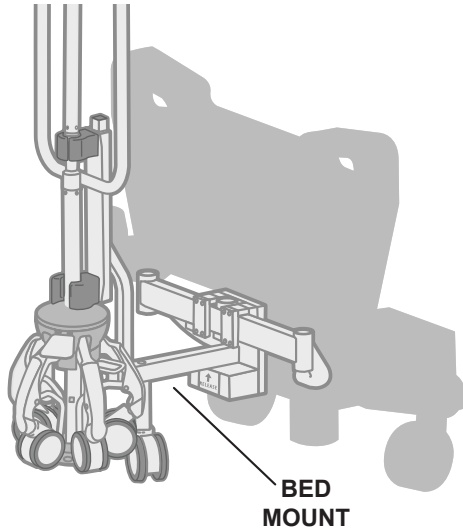

Figure 9. Position Bed Mount
1. Move the bed mount to the undock position (Figure 9).